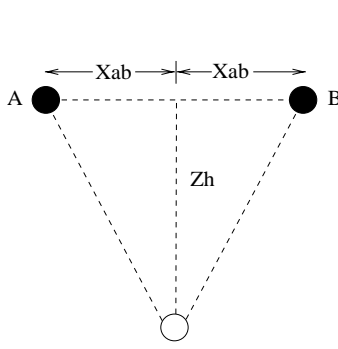

Fig. 2
1.1 How much mechanical work must be done in order for the robot to move from point A to point B as in Figure 2?
1.3 (Extra) What's the most efficient way to get from point A to point B in Figure 2? This is a fairly tough problem and would be good for a final project. For now just outline how one could go about answering the question.